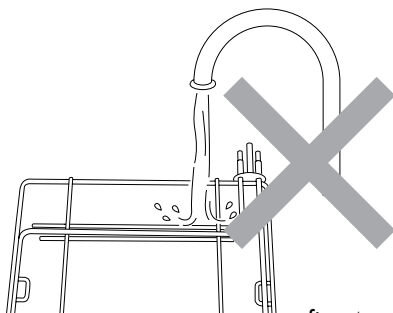

fig. 4
Never immerse the removable heating element (P) in water. If necessary, clean with a damp cloth (see fig. 4).